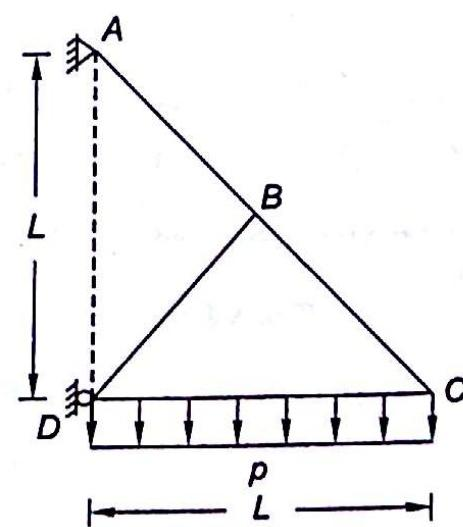

Fig. 4.35
4.6 A truss ABCD, hinged at A , roller supported at D carries uniformly distributed load of intensity p along member DG . What is the horizontal component of reaction at A ? (Fig. 4.35)